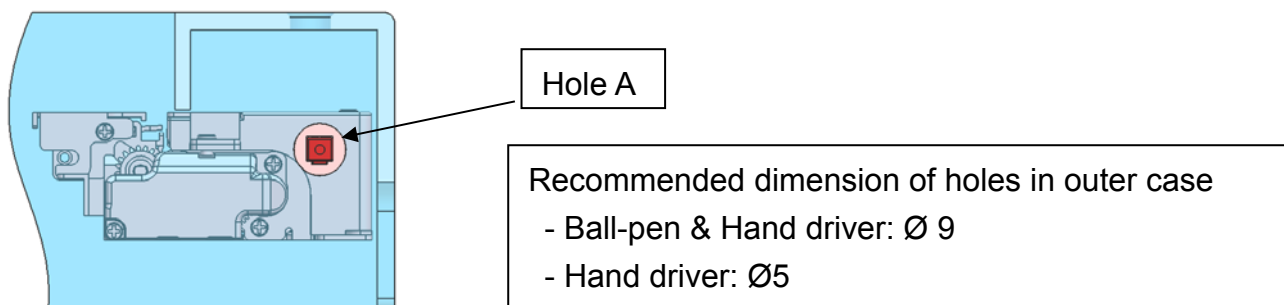

Fig 12-2 Recommended size of holes in outer case
- Make a hole in the outer case wall as shown in Fig 12-2 so that users can press the button with long and thin tools through the hole.